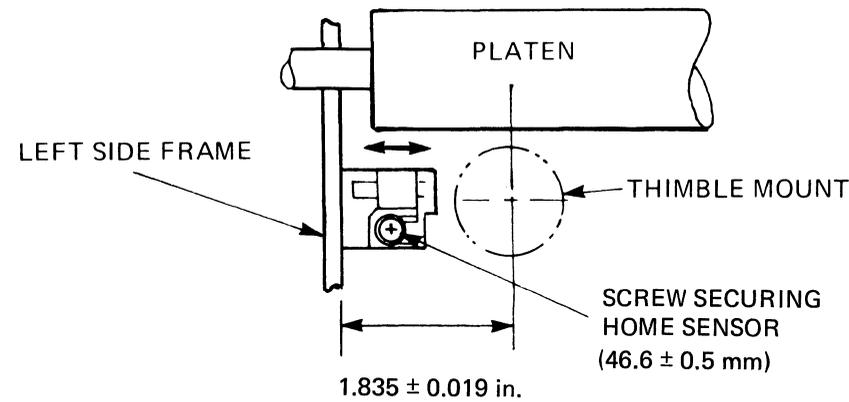

Figure 5-4 First Print Position
- a. Measure the first print position distance from the left side frame to the center of the thimble mount with the power on. It should be 1.835 ± 0.019 inches (46.6 ± 0.5 mm) from the left side frame (see Figure 5-4).